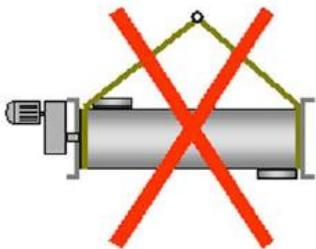

Fig. 5.2
- ▶ Do not lay ropes, chains etc. around the housing (Fig. 5.2) !